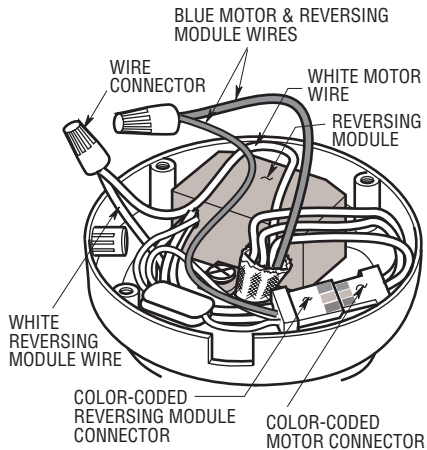

Figure 15
- 6. For Ceiling Fan Model CF2400 Only. Locate the gray capacitor wire which is connected to the gray wire coming from the center of the motor (yellow wire on older models). Remove the wire connector and separate these wires. Cap the gray wire coming from the motor using a wire connector (supplied) (Figure 15).
- 9. Position the reversing module (supplied) in the switch cup; connect the reversing module connector to the motor connector (Figure 15). The connectors are color-coded and keyed and can be connected in only one manner.
- 10. Using a wire connector (supplied), connect the white wire from the motor to the reversing module white wire (Figure 15).